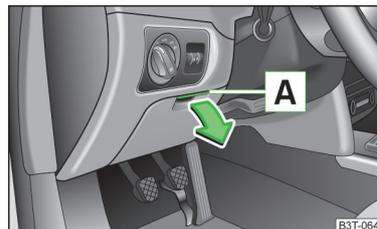

Fig. 80
- Raise the handle **A** > Fig. 80 and open out the compartment in the direction of the arrow.